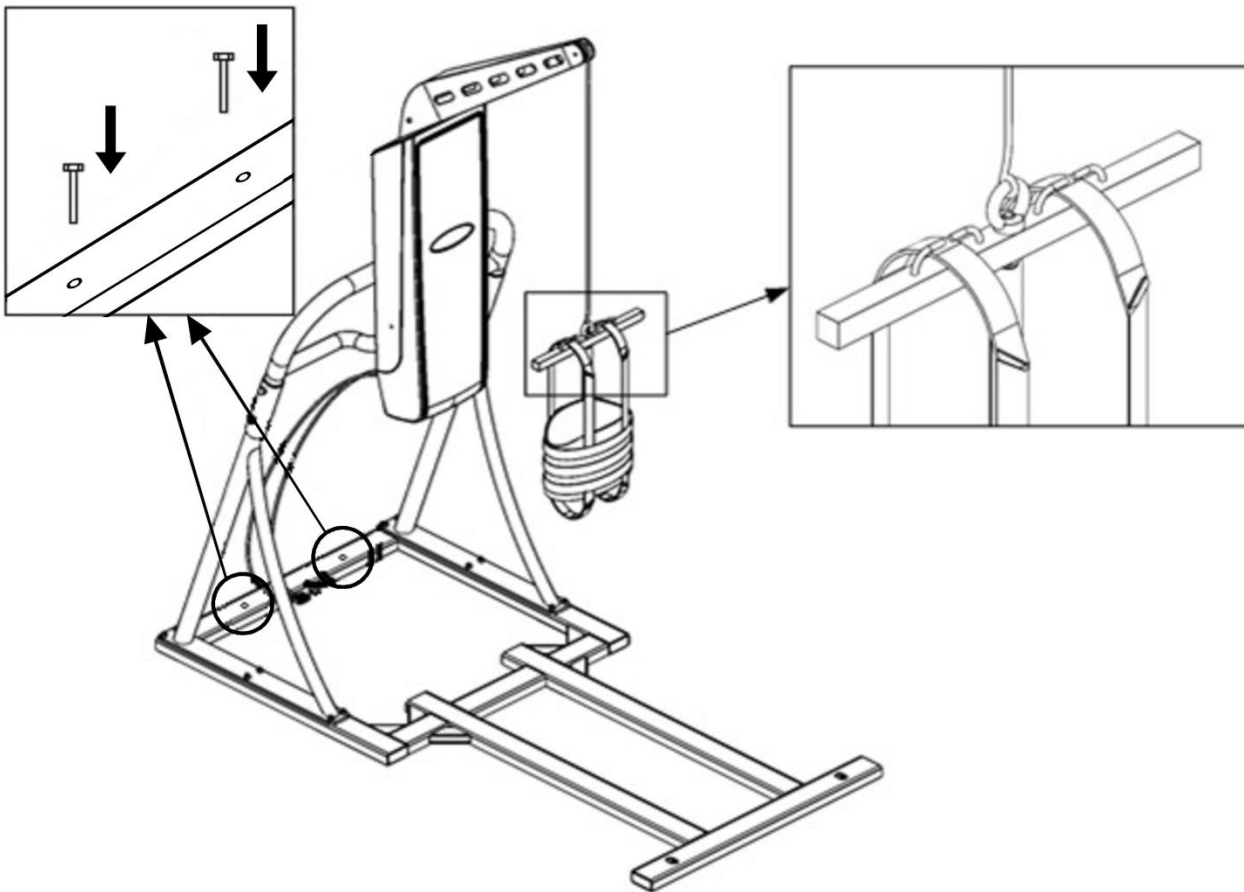

Figure 20 – Stage 3 of the body weight support system disassembly
To increase the structural stiffness and reduce the vibrations during training, it is recommended to secure the base of the body weight support system on the floor surface by means of two anchors [Ошибка! Источник ссылки не найден..31], Figure 20, to do this, you need to perform the following actions.
- Install the anchors into the holes (Figure 20) and tighten (fix) the anchor bolts with a wrench.
- Secure the patient support vest on the suspender of the body weight support system hoist by inserting the vest straps into the special suspension hooks, as shown in Figure 20.